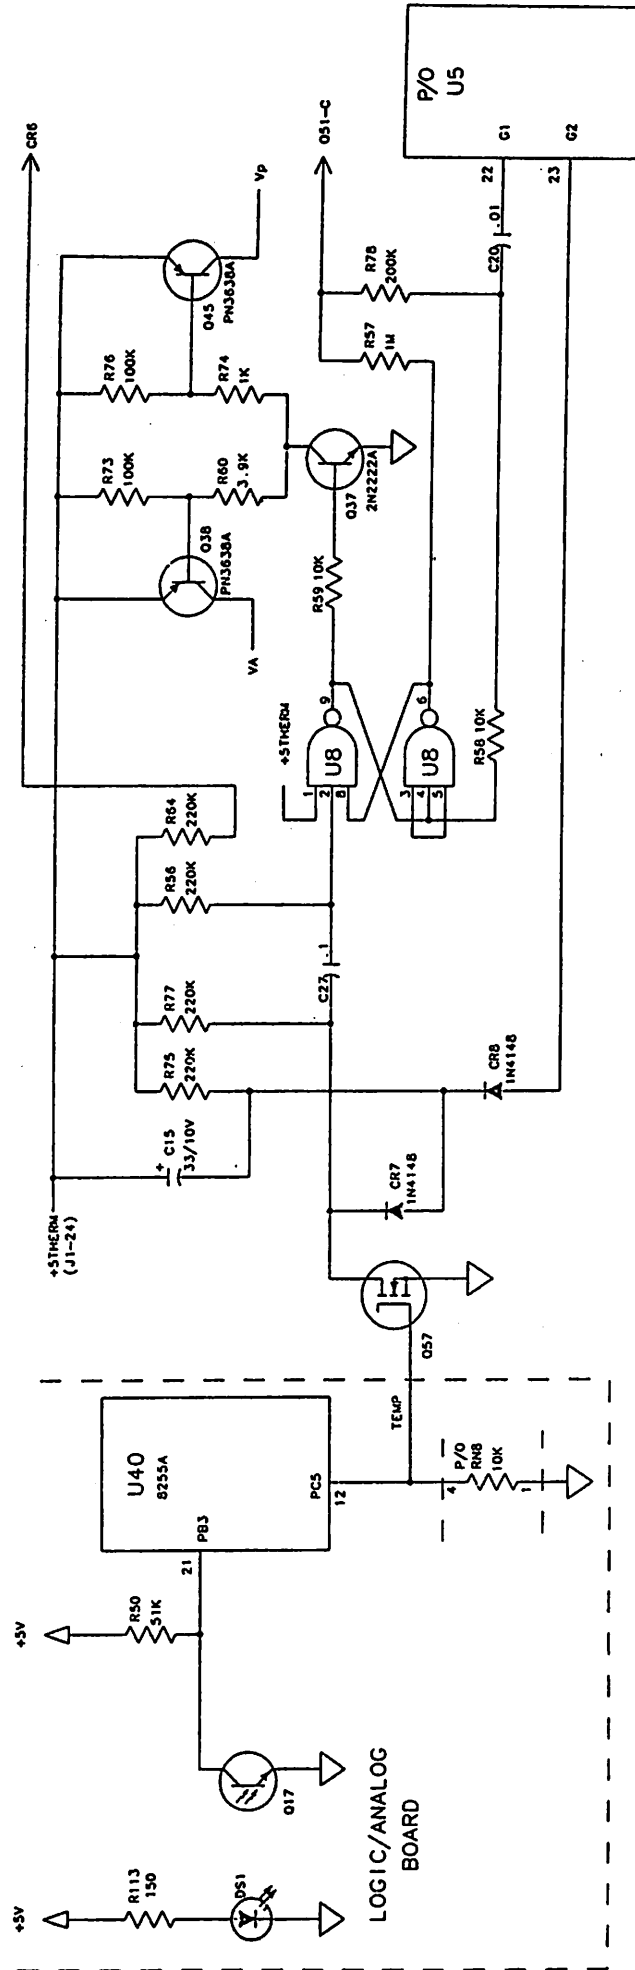

Figure 3-38. Thermometer Power Supply and Control Circuit
3.10.10 Power Control Circuit (figure 3-38)